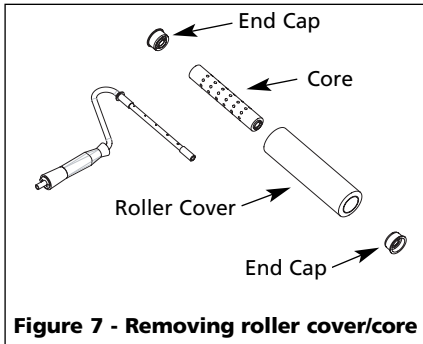

Figure 7 - Removing roller cover/core
1. Remove the roller cover and core by disassembling as shown in Figure 7. Set pieces aside.